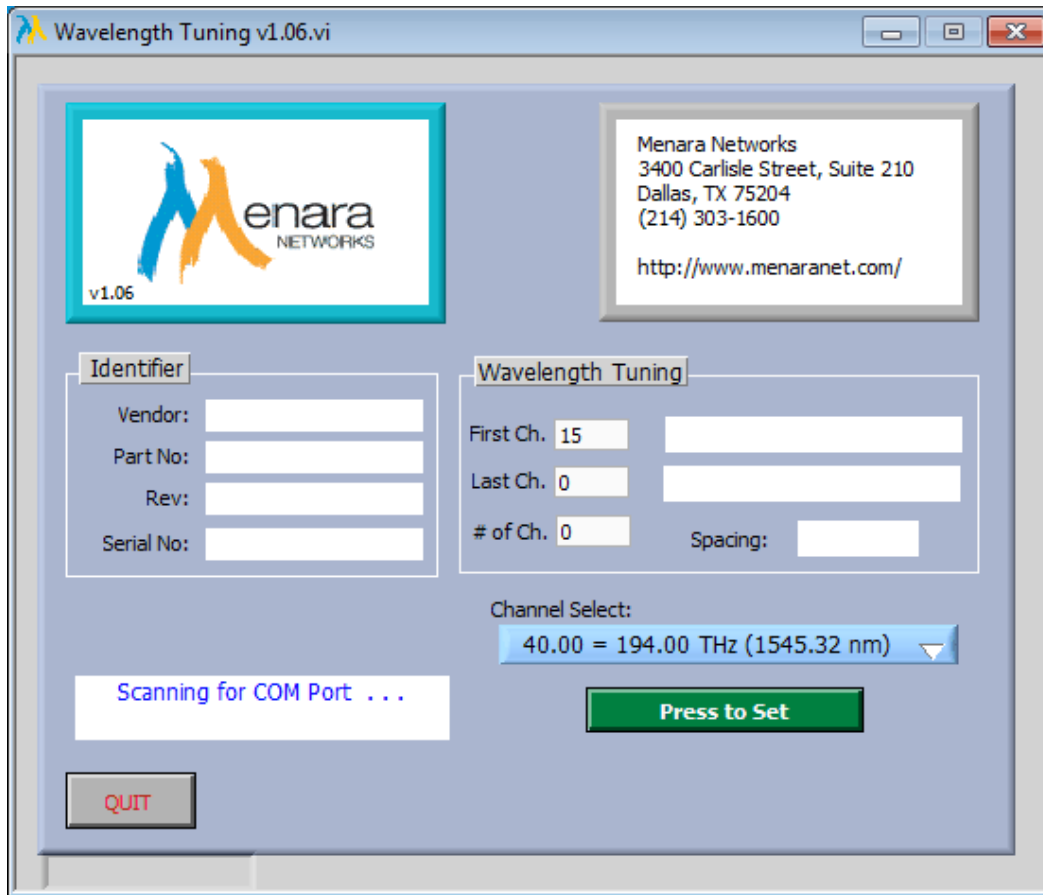

Figure 7: WL Tuning GUI
1. Click on 'WL Tuning' from the XFP Tuning cable or serial host board application windows. A window as shown in Figure 7 should open up.